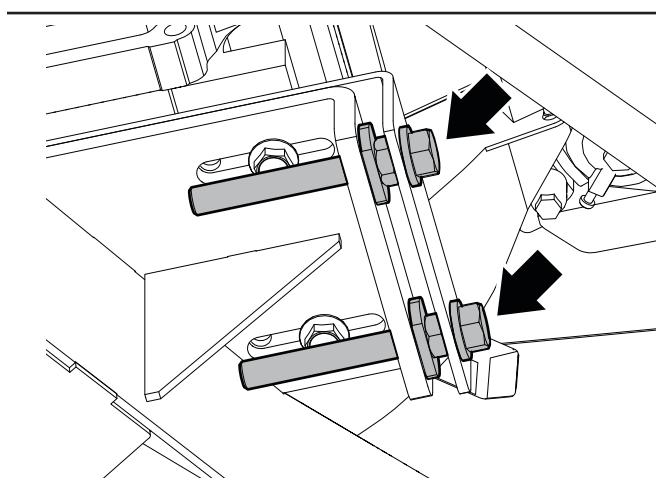

Figure 40—Drive belt tensioning bolts
4. Turn the drive-belt tensioning bolts to move the engine and remove tension from the drive belt. See *Figure 40* on page 59.
4. Use the drive-belt tensioning bolts to set the drive belt tension. See *Figure 40* on page 59.